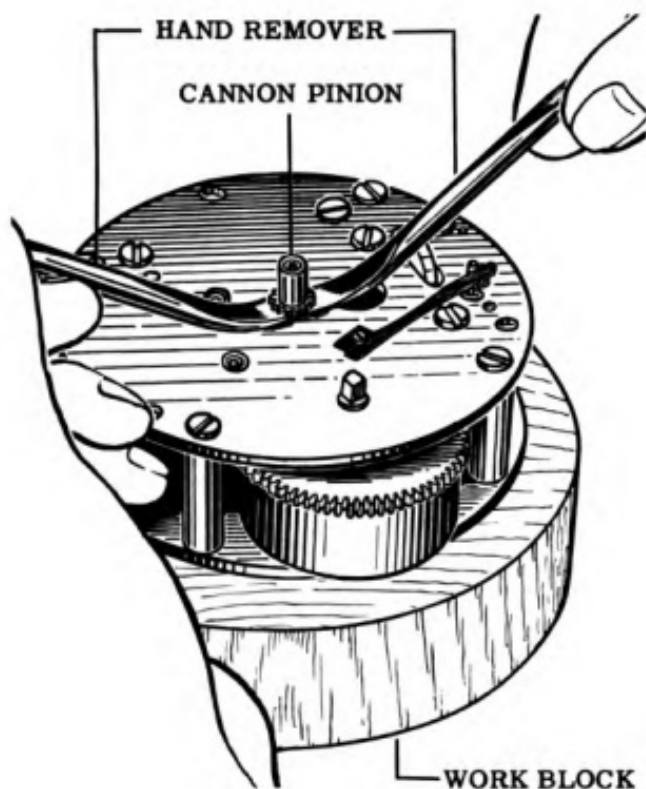

Figure 17
3. Using the hand removers with felt pads (Tool No. 2A) as shown in Fig. 17, remove the cannon pinion by prying it off the center arbor.